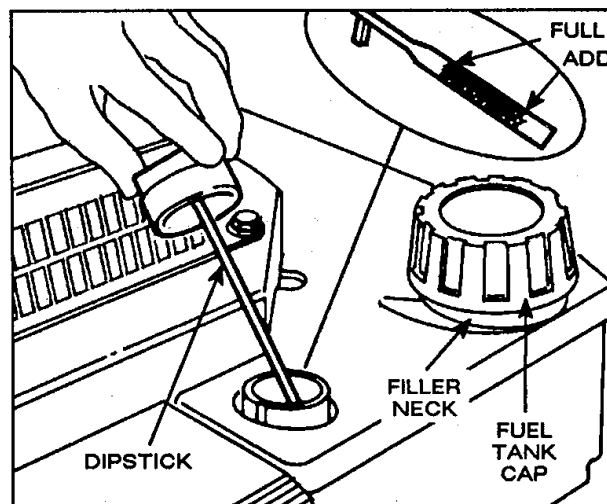

Figure 5
Before each use, assure oil level is between ADD and FULL marks on dipstick (Fig. 5). Add oil if level is low.
3. Wipe dipstick and insert it into filler neck. Rotate cap clockwise 1/4 turn. Then remove dipstick and check level of oil (Fig. 5). If level is low, add only enough oil to raise level to FULL mark on dipstick. **DO NOT FILL ABOVE FULL MARK BECAUSE ENGINE COULD BE DAMAGED WHEN STARTED. POUR SLOWLY.**
1. Clean around fuel tank cap and remove cap from tank (Fig. 5). Using unleaded gasoline, add fuel to 1/4" (6 mm) from bottom of filler neck. Do not fill the tank full.
1. CHECK OIL LEVEL—Maintain oil level between ADD and FULL marks as shown on dipstick (Fig. 5).